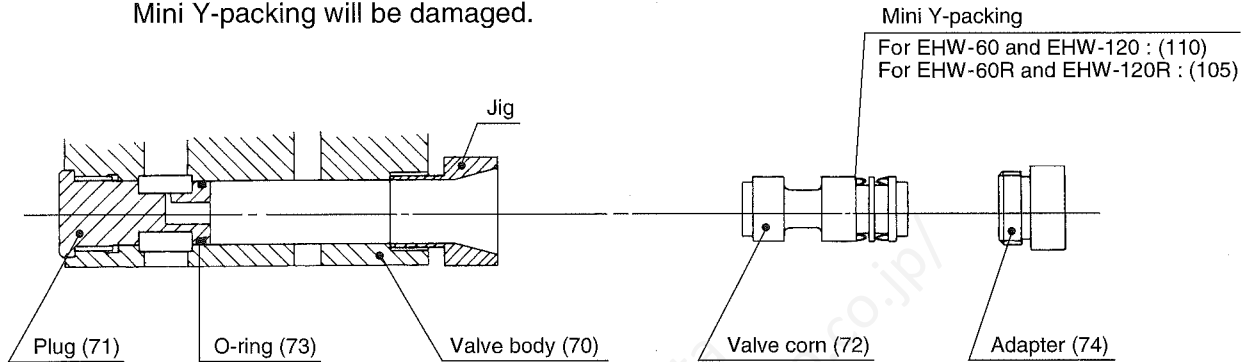

Fig. 11
Attach the jig to Valve body (70), then insert Valve cone (72) into Valve body (70) through the jig and press by hand until Valve cone (72) touches Plug (71). (See Fig. 11.)
**NOTE :** Before installing Valve cone (72), install Plug (71). If Valve cone (72) is inserted without the jig or pressed by Adapter (74), Mini Y-packing will be damaged.